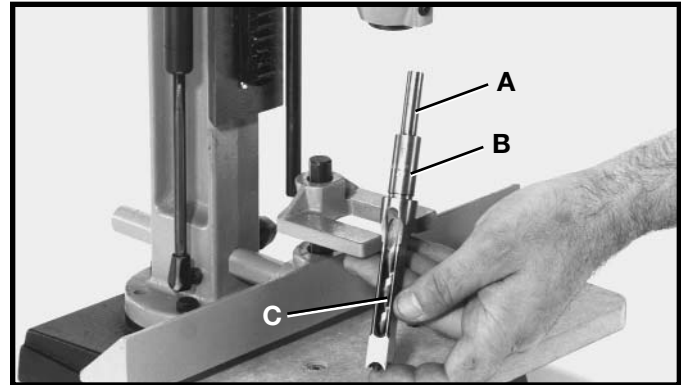

Fig. 20
Insert bit (A) Fig. 20, into chisel (B). **NOTE:** The opening (C) on the side of the chisel should always be to the right or left, never to the front or rear. The opening allows chips to escape during operation.